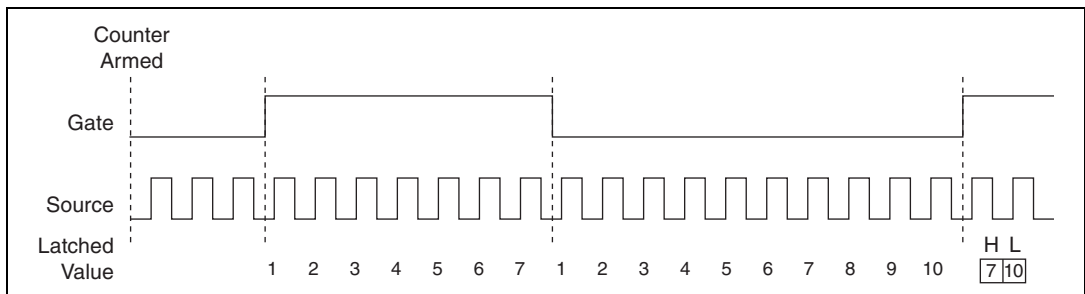

Figure 27. Single (On-Demand) Pulse Measurement
Single (on-demand) pulse measurement is equivalent to two single pulse-width measurements on the high (H) and low (L) ticks of a pulse, as shown in Figure 27.